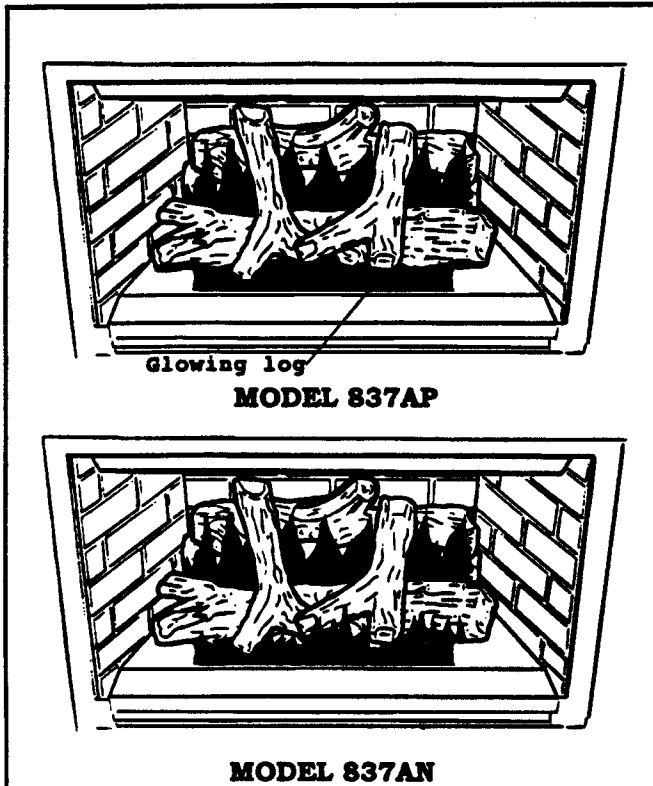

Fig 78 Burner flames
23.1 A periodic visual check of the pilot and burner flames should be made (see figs 78 and 79).